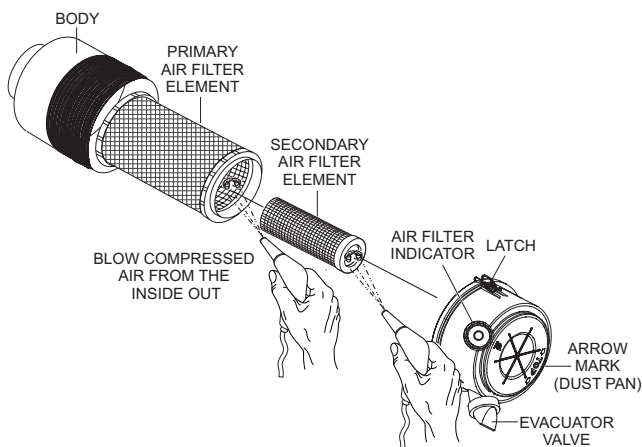

Figure 65. Engine Air Cleaner
The air cleaner (Figure 65) provided with this John Deere diesel engine is equipped with a replaceable, high-density, paper air filter element. The air cleaner is also equipped with an inner (secondary) element that is used as a backup filter should the primary element become damaged. Check the air cleaner daily or before starting the engine. Replace the air cleaner as needed.
1. Release the **latches** that secure the **air cleaner cover** to the **air cleaner body** (Figure 65).
2. Remove the air cleaner cover (Figure 65) and set it aside.
3. Remove both the primary and secondary **air cleaner elements** (Figure 65).
5. To clean the **primary element** (paper air filter) as shown in Figure 65, tap the filter element several times on a hard surface to remove dirt, or blow compressed air, not to exceed 30 psi (207 kPa, 2.1 kgf/cm²), through the filter element from the inside out.
8. Clean the inside of the air cleaner body (Figure 65).